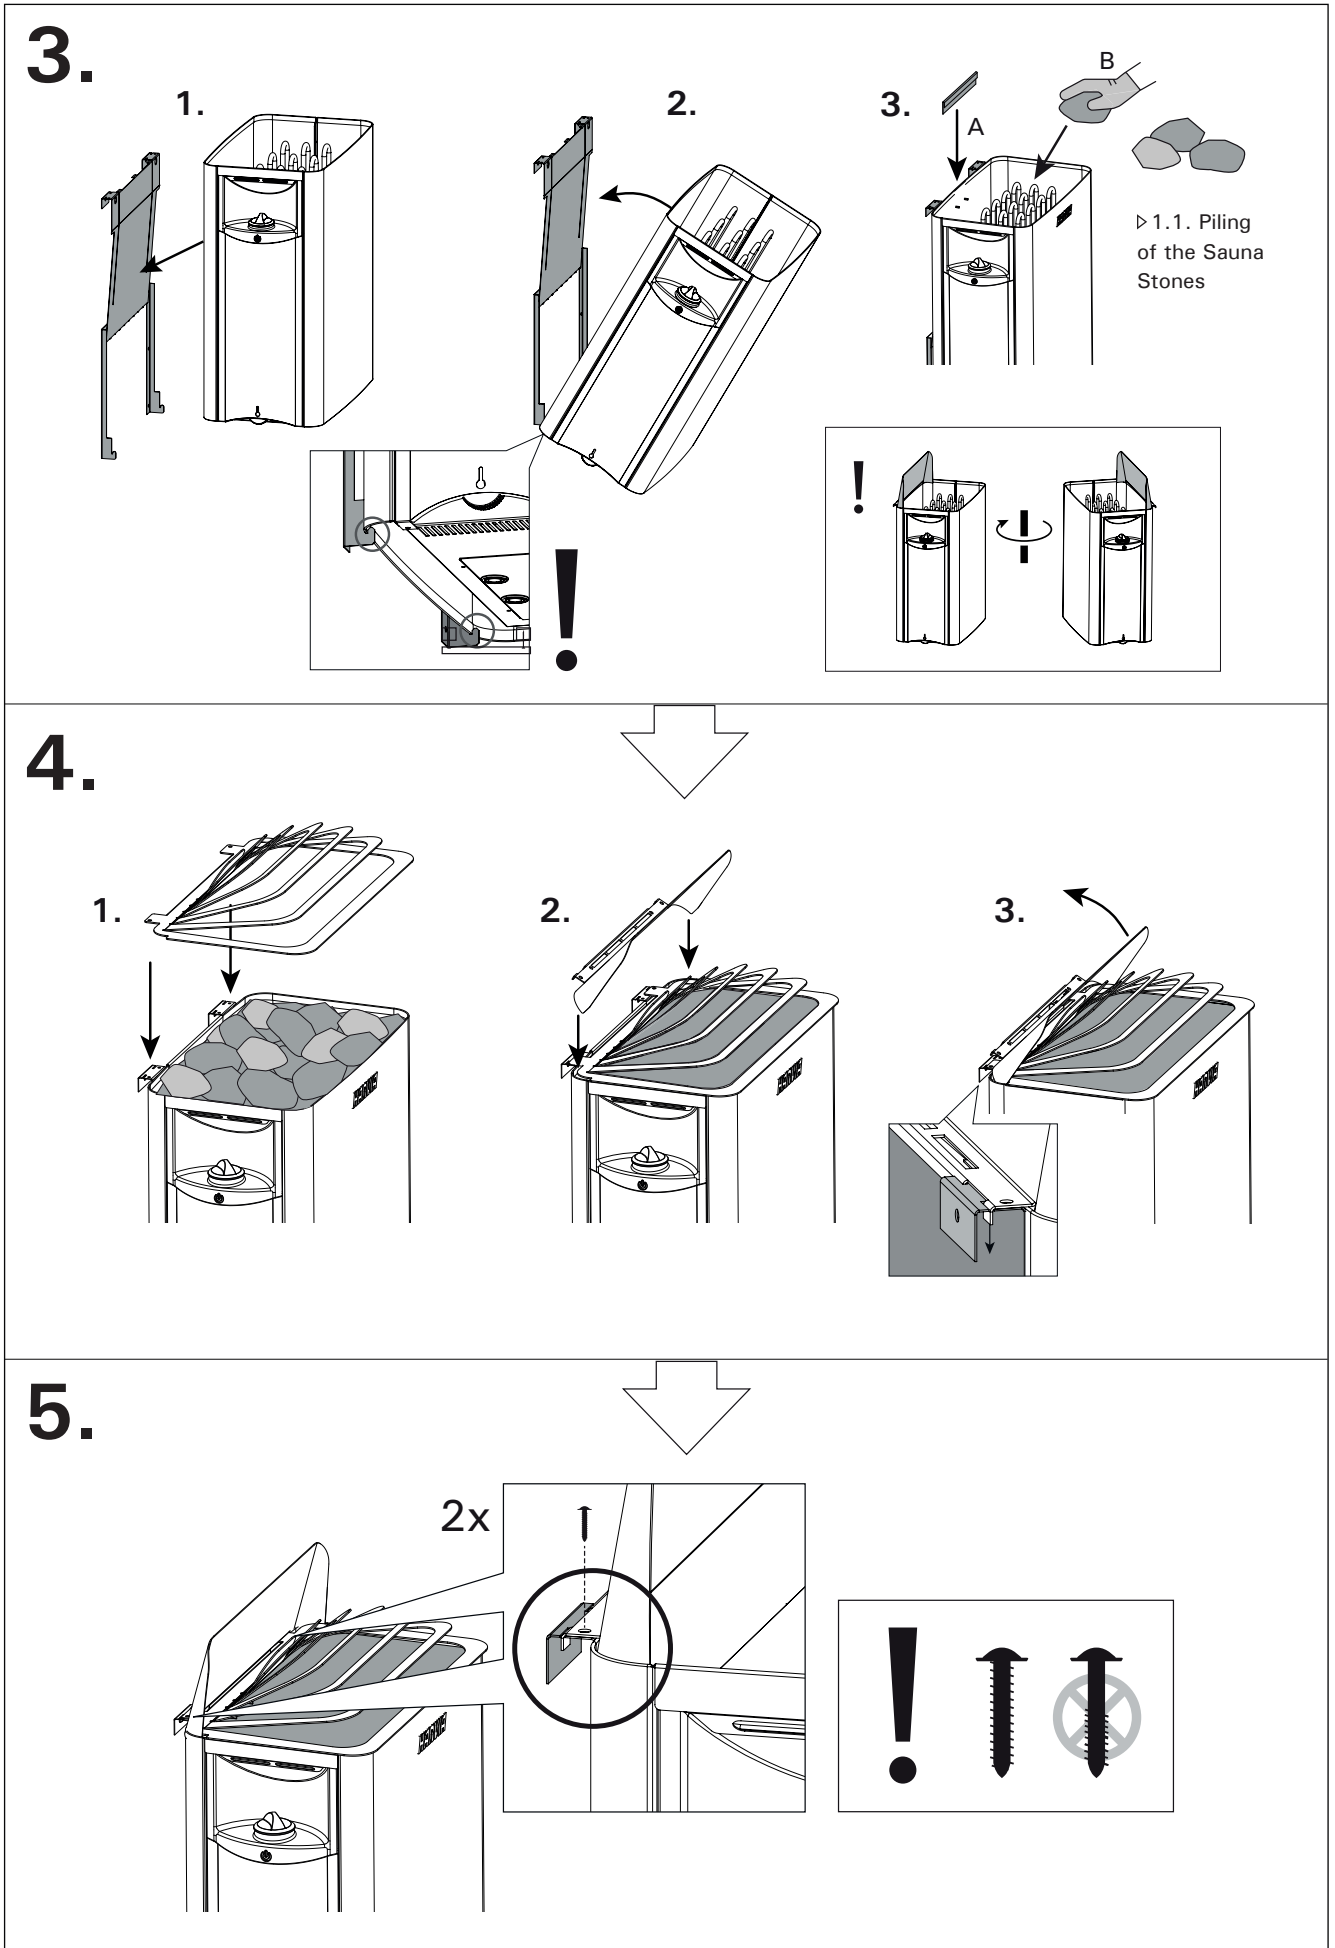

Figure 7. Installing the wall-mounting device (2.) and the heater (3.-5.)
Prior to installing the heater, read all the instructions for installation (figure 7), as well as checking the following points:
1. Connect the supply cable (fig. 7:1) to the heater.
3. Lift the heater into the mount and make sure it is centered (figure 7:3). Install mounting bracket (A) and pile the sauna stones (B) according to instructions (▷1.1.).
4. Install the safety guard (fig 7:4:1) and steam guide (7:4:2-3) to the heater and the wall mount.
5. Secure the heater to the wall mount by screwing two screws behind the steam guide (figure 7:5).